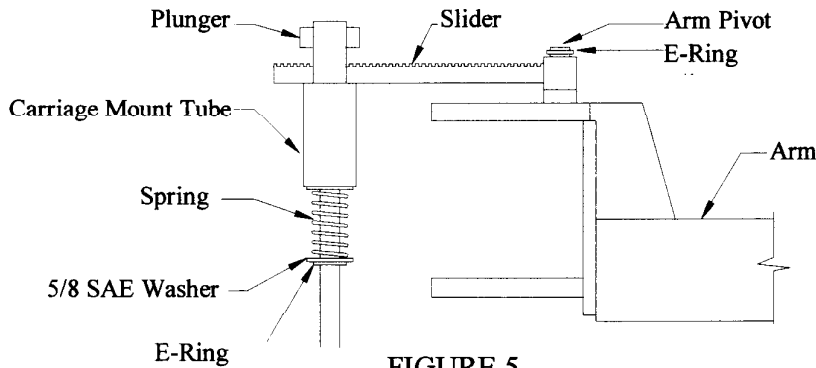

FIGURE 5
24. Install the swing arms on the carriages with the swing arm pins and attach the swing arm restraints as shown in Figure 5.